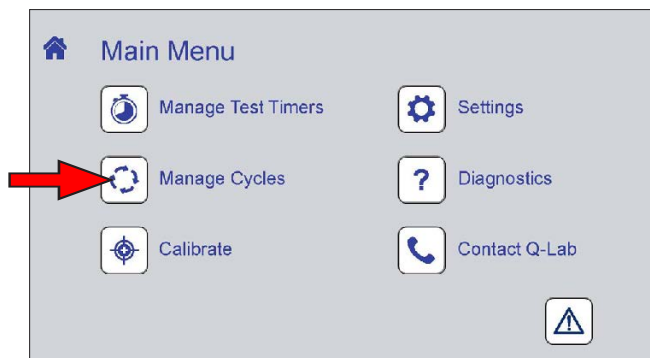

Figure 10.6.1.a: Manage Cycles icon.
- On the Main Menu screen touch the Manage Cycles icon (Figure 10.6.1.a) to display the Manage Cycles screen.
- The Manage Cycles screen is displayed showing the active test cycle and the steps in the cycle, with the currently executing step indicated (Figure 10.6.1.b).
- Each cycle is stored with an alphanumeric (A through J) identification tab (Figure 10.6.1.b).
Figure 10.6.1.b: Manage Cycles screen. The active cycle is displayed. The currently running step is indicated. From here you can run that cycle, or perform other actions as in the next sections.